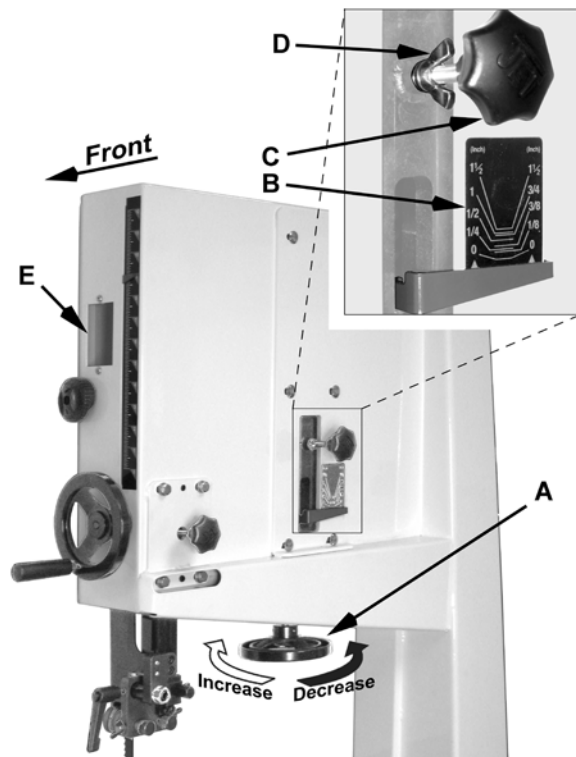
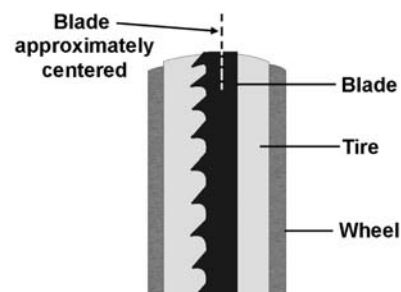

Figure 19
Figure 20
Blade tension is set with the *blade tension handwheel* (A, Fig. 19) and is performed following blade replacement and periodically as the blade stretches from use.
Referring to Figure 19:
1. Set the blade tension by rotating the handwheel according to the *arrow directions* in Figure 19.
2. The *gauge* (B) indicates the approximate tension according to the width of the blade in inches. Initially, set the blade tension to correspond to the width of your blade.
through the window (E, Fig. 19). The blade should ride upon the center of the wheel (Figure 20).
2. If the blade tends to move toward the edge of the wheel, loosen the *wing nut* (D, Fig. 19) and slightly rotate the *knob* (C, Fig. 19). Rotating the knob clockwise will cause the blade to move toward the rear edge of the wheel. Rotating the knob counterclockwise will cause the blade to move toward the front edge of the wheel.
3. When the blade is tracking properly in the center of the wheel, re-tighten the *wing nut* (D, Fig. 19).